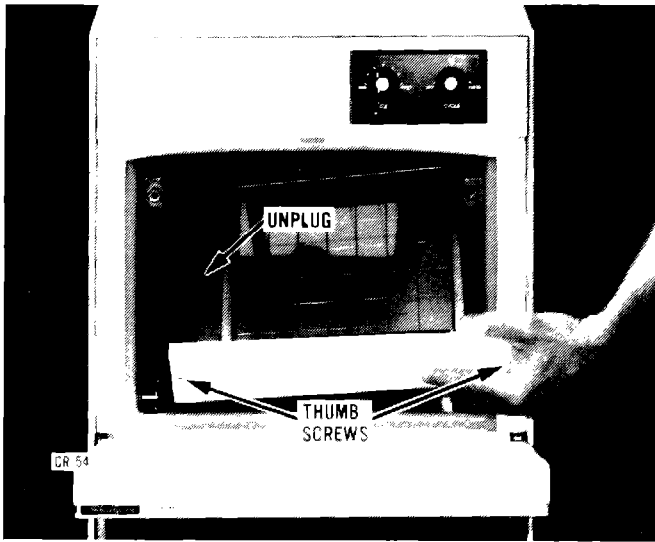

FIGURE 4
2. Remove cutter grid (two thumb screws) **Figure 4**. The grid slides off of two mounting tabs near the water pan.